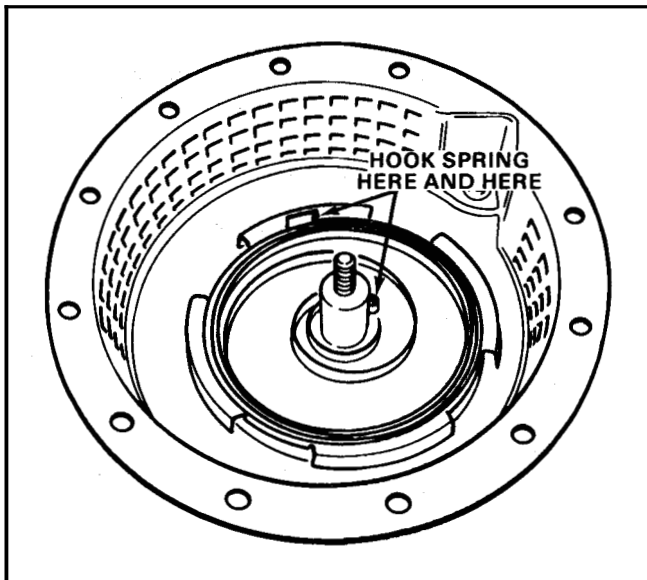

Figure 46
1. New recoil springs are secured with a wire around the circumference of the spring. Install it in the spring case with the outside hook of the spring engaging the slot in the outside rim of the spring case. See Figure 46.